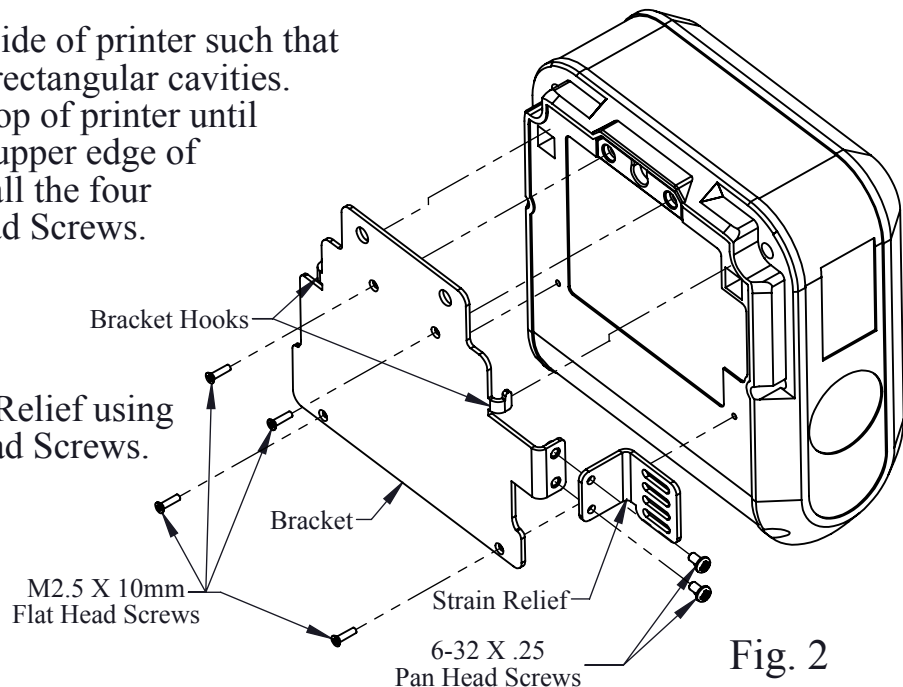

Fig. 2
2. Place Bracket on back side of printer such that Bracket Hooks go into rectangular cavities. Slide Bracket towards top of printer until Bracket Hooks engage upper edge of rectangular cavity. Install the four M2.5 X 10mm Flat Head Screws. Fig. 2
3. If desired attach Strain Relief using two 6-32 X .25 Pan Head Screws. Fig. 2